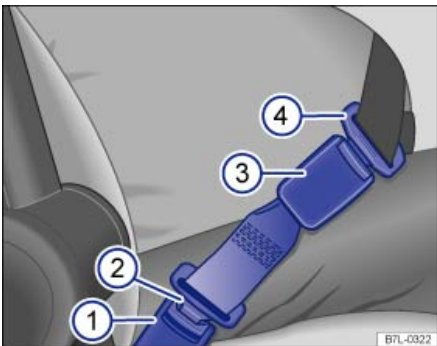

Fig. 59 A safety belt extender properly attached to the factory-installed safety belt.
Key to fig. 59:
- Insert the buckle tongue on the safety belt extender ⇒ fig. 59 \(2\) into the vehicle belt buckle for the seat where the safety belt extender is being used \(1\).